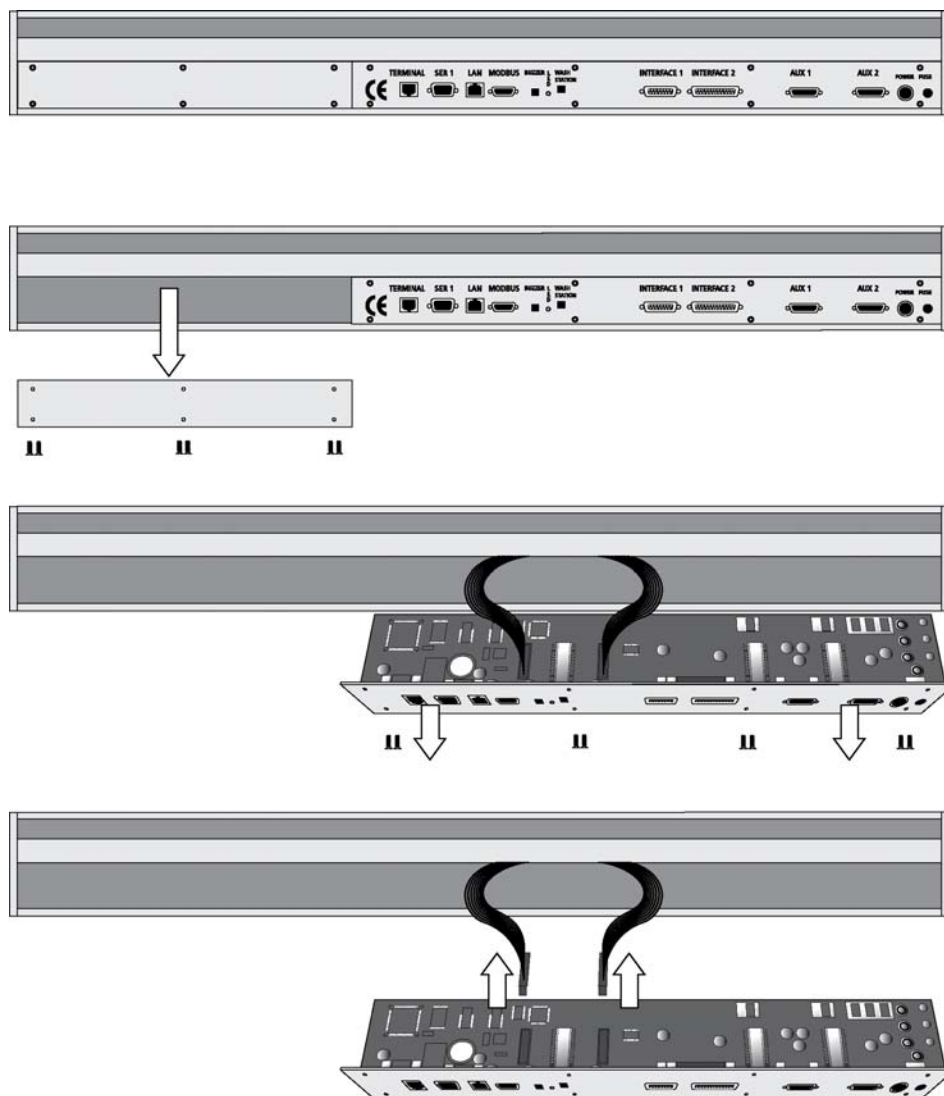

Figure 73 Replacing Control Board (HTS)
- 1 Follow the sequence shown in Figure 73 on page 172 to detach and release the Control board from its position inside the X-axis.